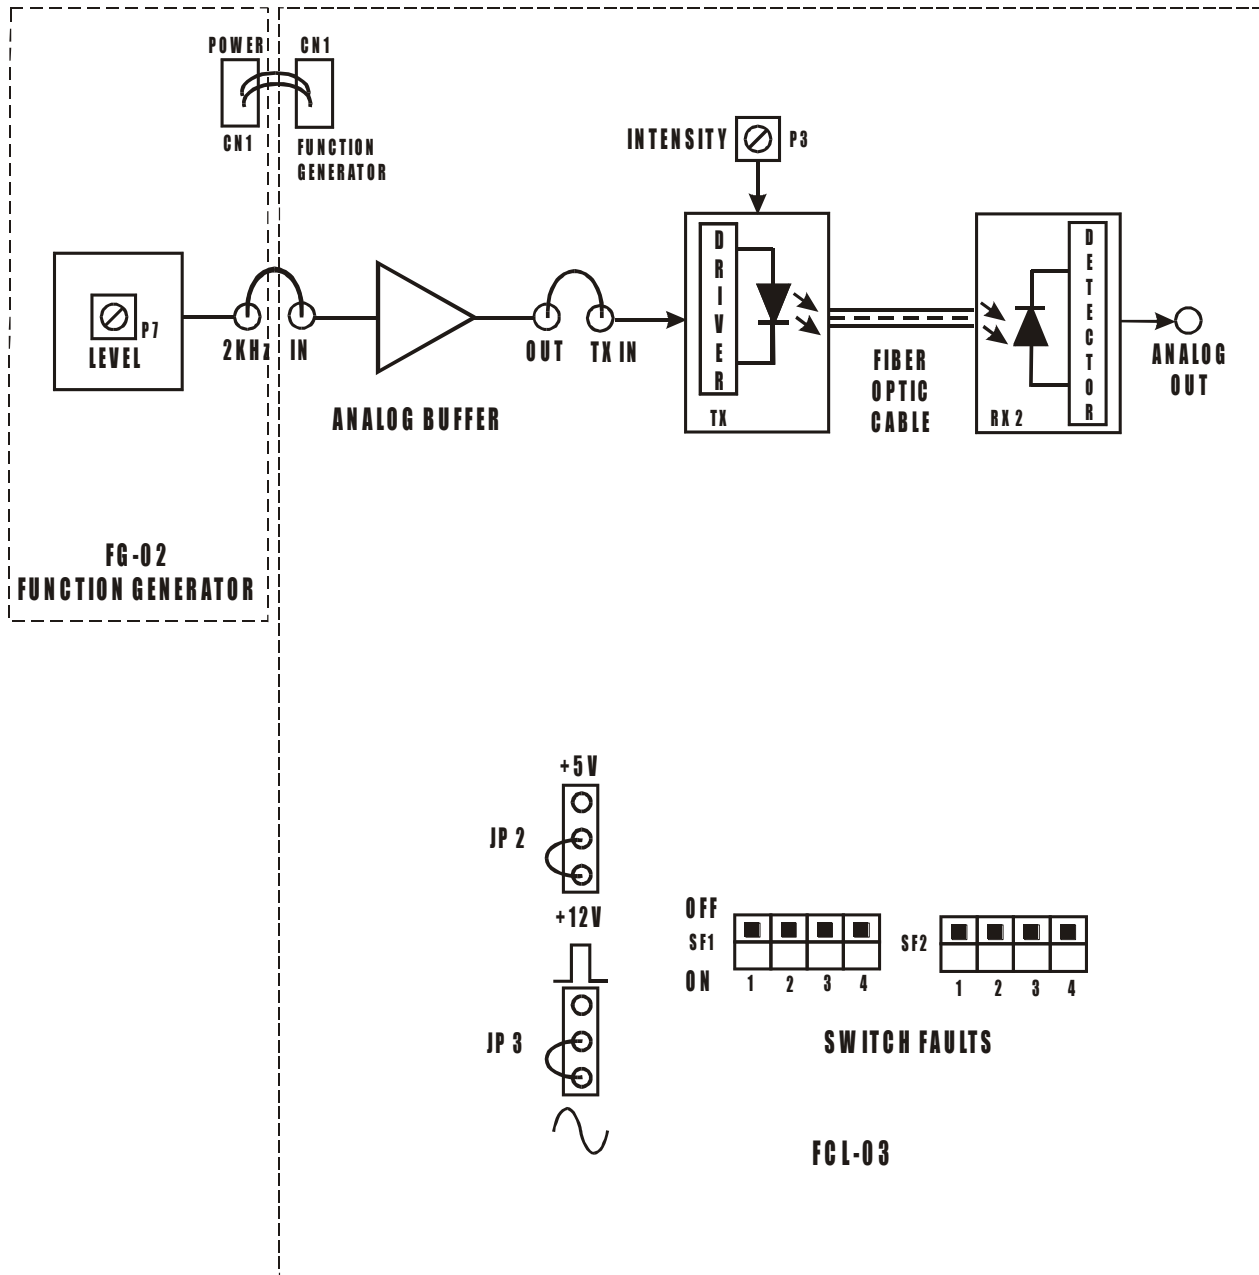

FIG. 1.1 BLOCK DIAGRAM FOR FIBER OPTIC ANALOG LINK
- Make connections as shown in fig.1.1. Connect the power supply cables with proper polarity to FCL-03 Kit. While connecting this, ensure that the power supply is OFF.
- Keep the jumpers **JP2** & **JP3** on FCL-03 as shown in fig.1.1.